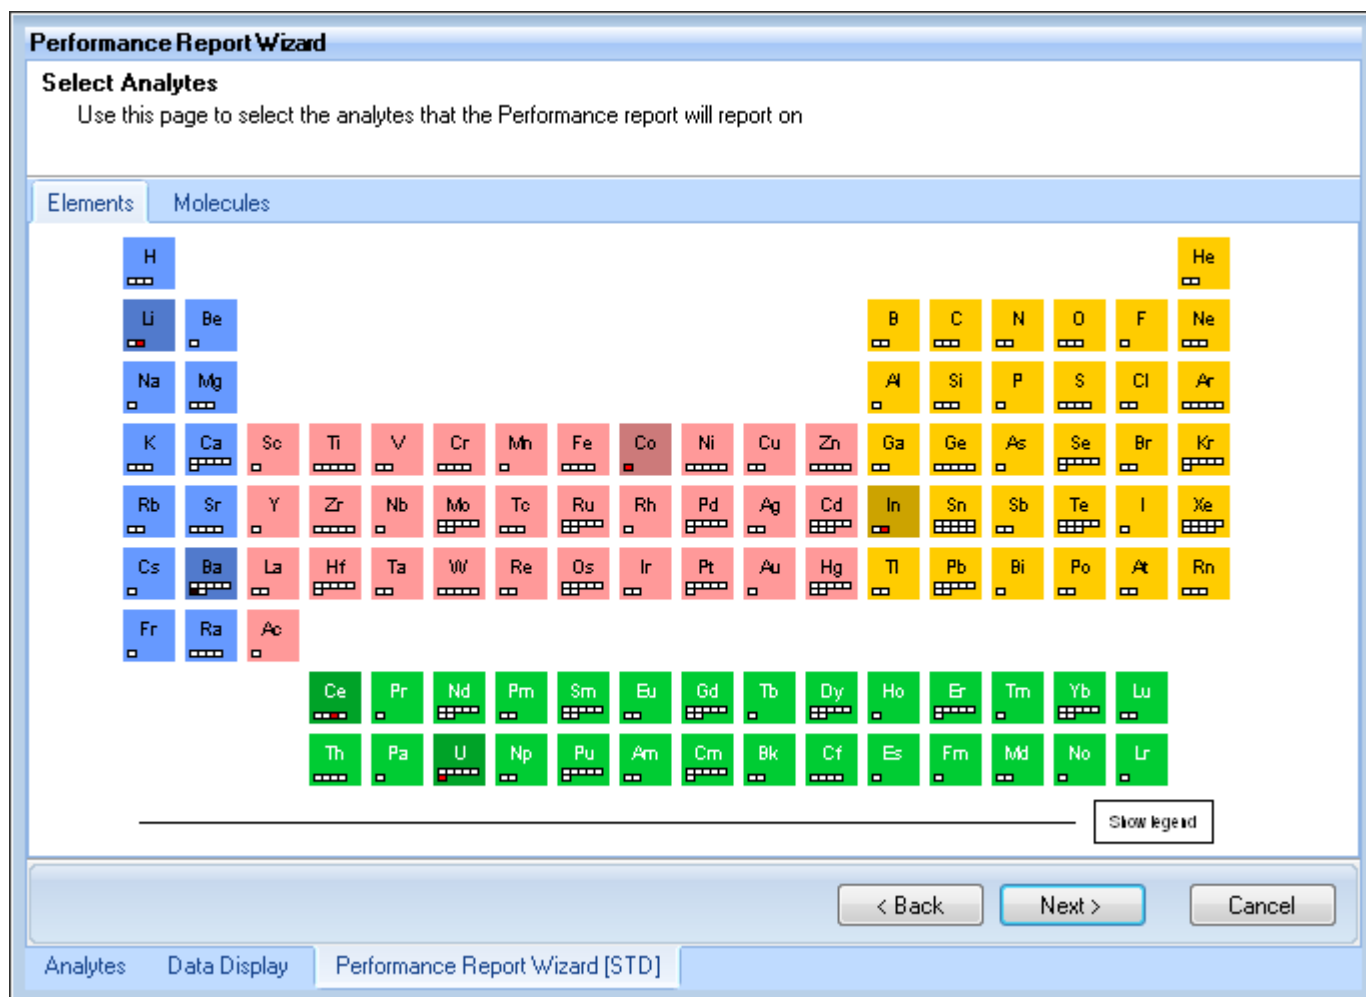

Figure 4-22. Selecting Analytes in the periodic table
8. In the tab **Elements**, select the analytes for the Performance report selected in the periodic table, see Figure 4-22.